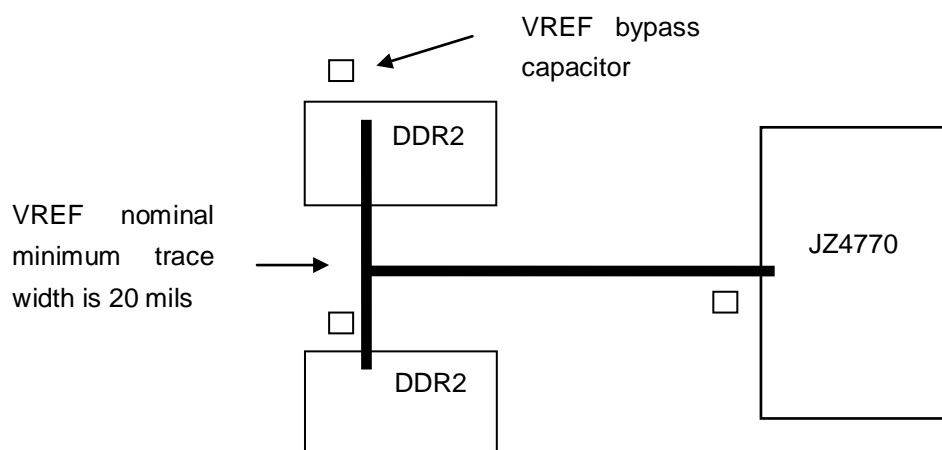

Figure 4-2 VREF Routing and Topology
- VREF is used as a reference by the input buffers of the DDR2 memories. It is recommended to be 1/2 of the DDR2 power supply voltage and should be created using a resistive divider as shown in the schematic. Other methods are not recommended. Figure 4-2 shows the layout guidelines for VREF.